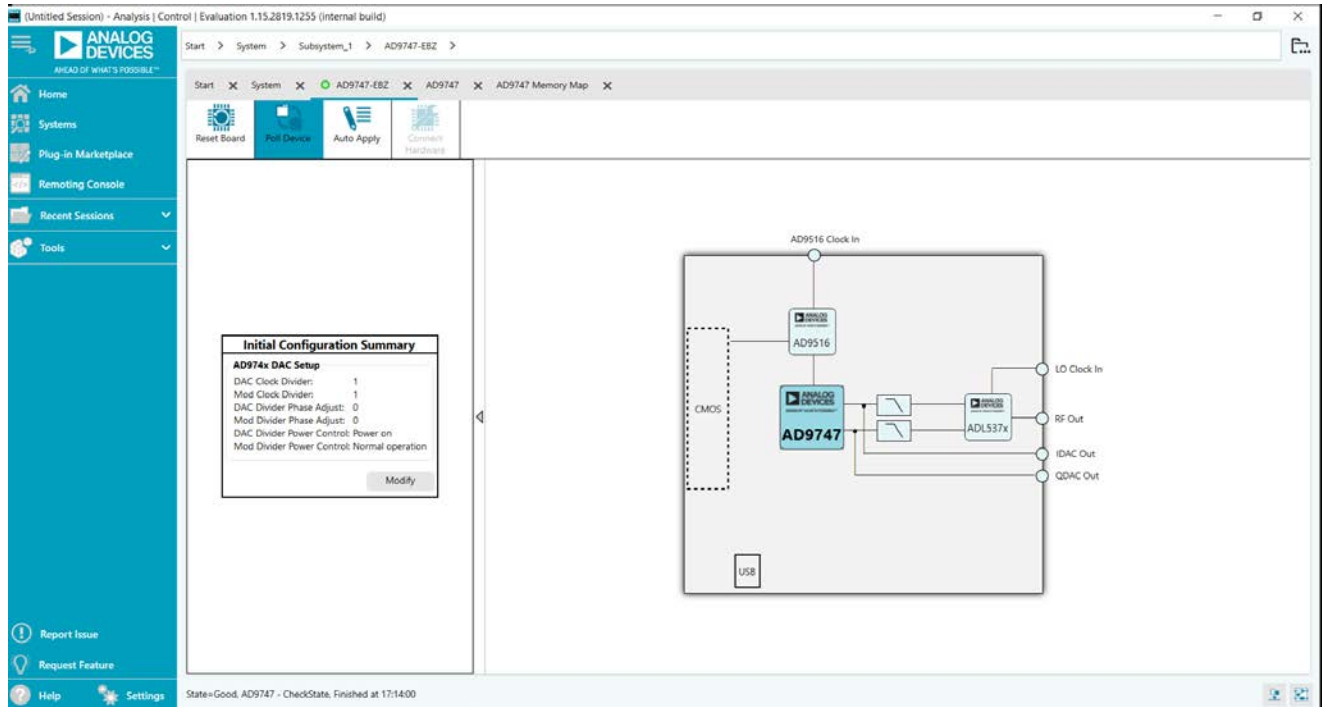

Figure 13. AD9747-EBZ Tab, Initial Configuration Pane Fields Populated
2. From the initial ACE screen, click the AD9747-EBZ icon and populate the fields in the Initial Configuration pane, as shown in Figure 13. Click **Apply**.